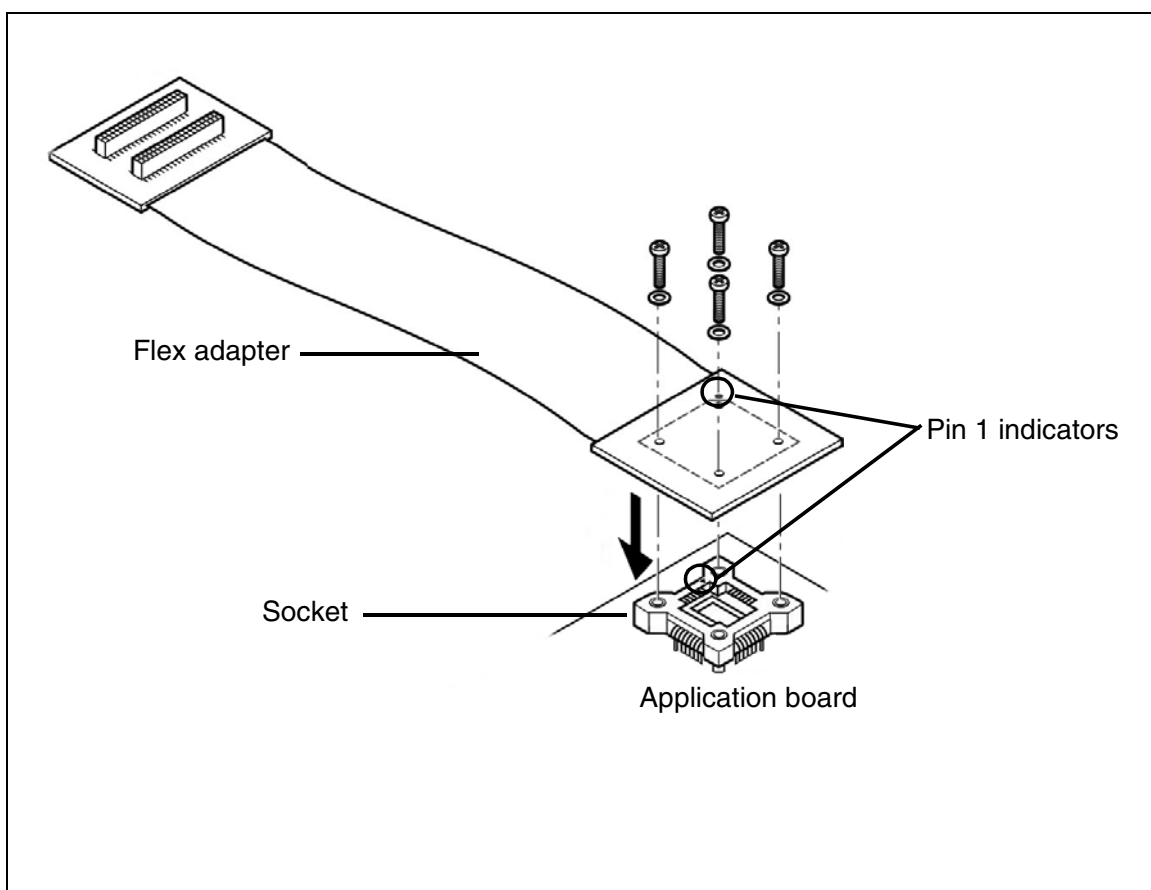

Figure 6: TQFP64 connection scheme
- 2 Align the pin 1 indicators on the TQFP64 end of the DB520 flex adapter and the TQFP64 socket. Then insert the connector on the flex adapter into the socket on your application board as shown in Figure 6, and fasten with the provided screws.